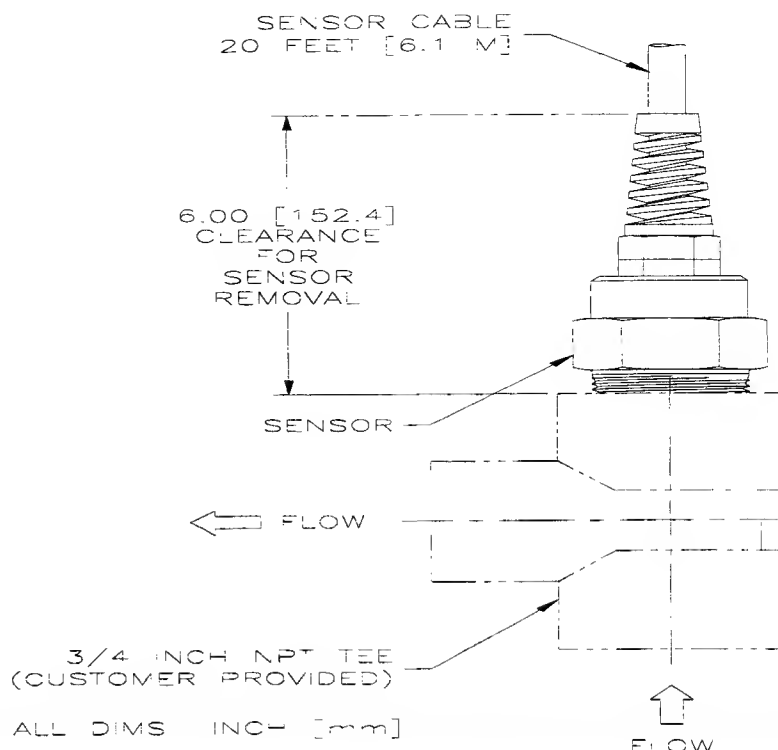

FIGURE 2-3 Installing Sensor Into Pipe Using a Tee
| Figure 2-3 | Installing Sensor Into Pipe Using a Tee .....             | 9  |
1. Refer to Figure 2-3, and install a 316 stainless steel pipe tee of appropriate size (1/2 to 2 inches) into the process pipe. **Recommendation:** Use a 3/4-inch pipe tee. If necessary, screw a respectively-sized reducer into the pipe tee.